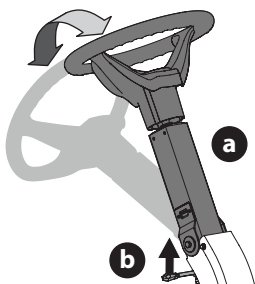

Fig. 9
- To tilt the steering wheel column (a) forward, lift the steering column adjustment lever (b), place the steering wheel column (a) in the desired position and then release the steering wheel column adjustment lever (b) to secure the steering wheel column in place (Fig. 9).